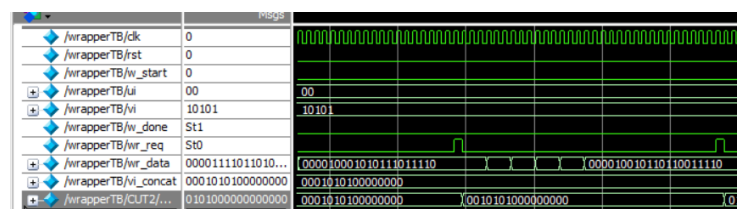

Fig. 21 First and second simulation results
- $e^{0.1640625} = 00001.001011010011110$ (figs 21,22)